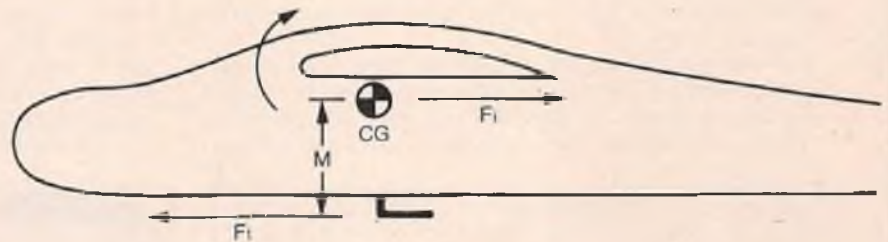

FIGURE 3
Let's now consider launching speed and technique. It is very possible to launch a sailplane in a fully-stalled condition. Two good ways to do this are to point the ship up and then throw it straight out or, second, let the line jerk the ship out of your hand. In the first instance, the ship may have good airspeed, but the angle of attack is above the stall angle. At this point the flying field tips up and the ship runs right into the side of it. The results of the second case are the same, but the reason is different. The towing force is generally applied to the glider through a hook on the bottom of the fuselage. This force may act on the center of inertia of the ship through a "couple" (Figure 3)
The inertia of the ship opposes the towing force. The forces are, however, applied at points displaced by a distance, M. This causes upward rotation. As there is initially little forward speed, the stabilizer is not effective and the wing is rotated into a stalled angle of attack. This condition is evident in the ship that almost does a tail slide on launch which is finally recovered when the stab gets the angle of attack sorted out. This can be avoided by: (1) Launching with sufficient airspeed so the stab is effective; (2) Launching at an angle high enough that the towing force vector passes through the Center of Gravity: therefore,  $M = 0$  (Figure 3); or (3) On heavy sailplanes, or ones with insufficient elevator authority, the problem is sometimes solved by towing with a yoke attached at the C.G. point instead of the bottom of the fuselage. It must also be stated that solution #2 must be accompanied by a heave to establish a viable angle of attack, otherwise the tow line will pull the ship forward at an angle of attack which may be above stall.